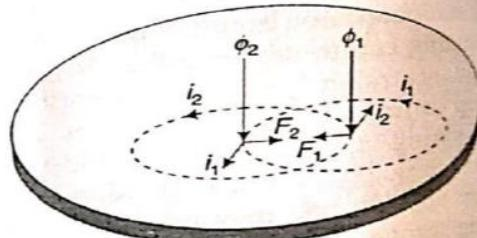

Fig. 2.14 Torque produced in an induction relay
- Current coil is energized by residual current ( $I_{res}$ ) & Potential coil by residual voltage as shown in Fig 2.14 (a).
- If neutral of an alternator or transformer is grounded, then the connections are made as in Fig 2.14 (b).
Fluxes  $\phi_1$  and  $\phi_2$  are produced in a disc type construction by shading technique. In watt-metric type construction,  $\phi_1$  is produced by the upper magnet and  $\phi_2$  by the lower magnet. A voltage is induced in a coil wound on the lower magnet by transformer action. The current flowing in this coil produces flux  $\phi_2$ . In case of the cup type construction,  $\phi_1$  and  $\phi_2$  are produced by pairs of coils, as shown in Fig. 2.13. The theory given below is true for both disc type and cup type induction relays. Figure 2.14 shows how force is produced in a rotor which is cut by  $\phi_1$  and  $\phi_2$ . These fluxes are alternating quantities and can be expressed as follows.